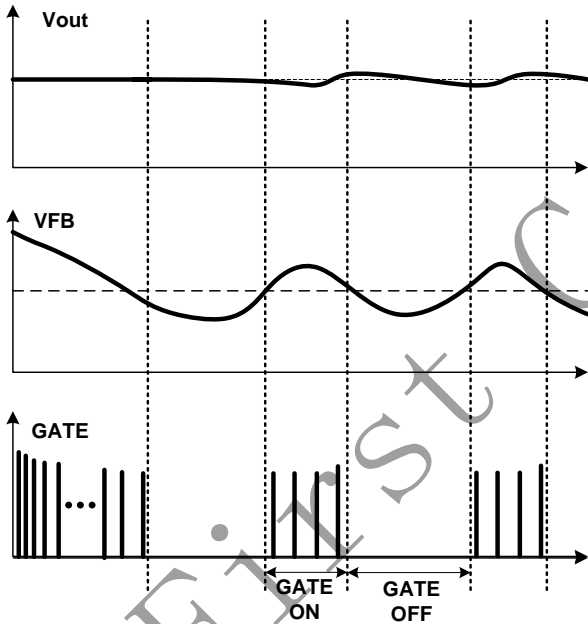

Fig.5
■ When zero or very light load conditions, the IC enters into burst mode. In the burst mode (as illustrated in Fig.5), the valley locking counting number is fixed at 8. In this way, a small standby power can be achieved.
When the loading is very small, the system enters into burst mode. When VFB drops below VFB_min_duty, SF5877 will stop switching and output voltage starts to drop, which causes the VFB to rise, as shown in Fig.5. Once VFB rises above VFB_min_duty, switching resumes. Burst mode control alternately enables and disables switching, thereby reducing switching loss in standby mode.